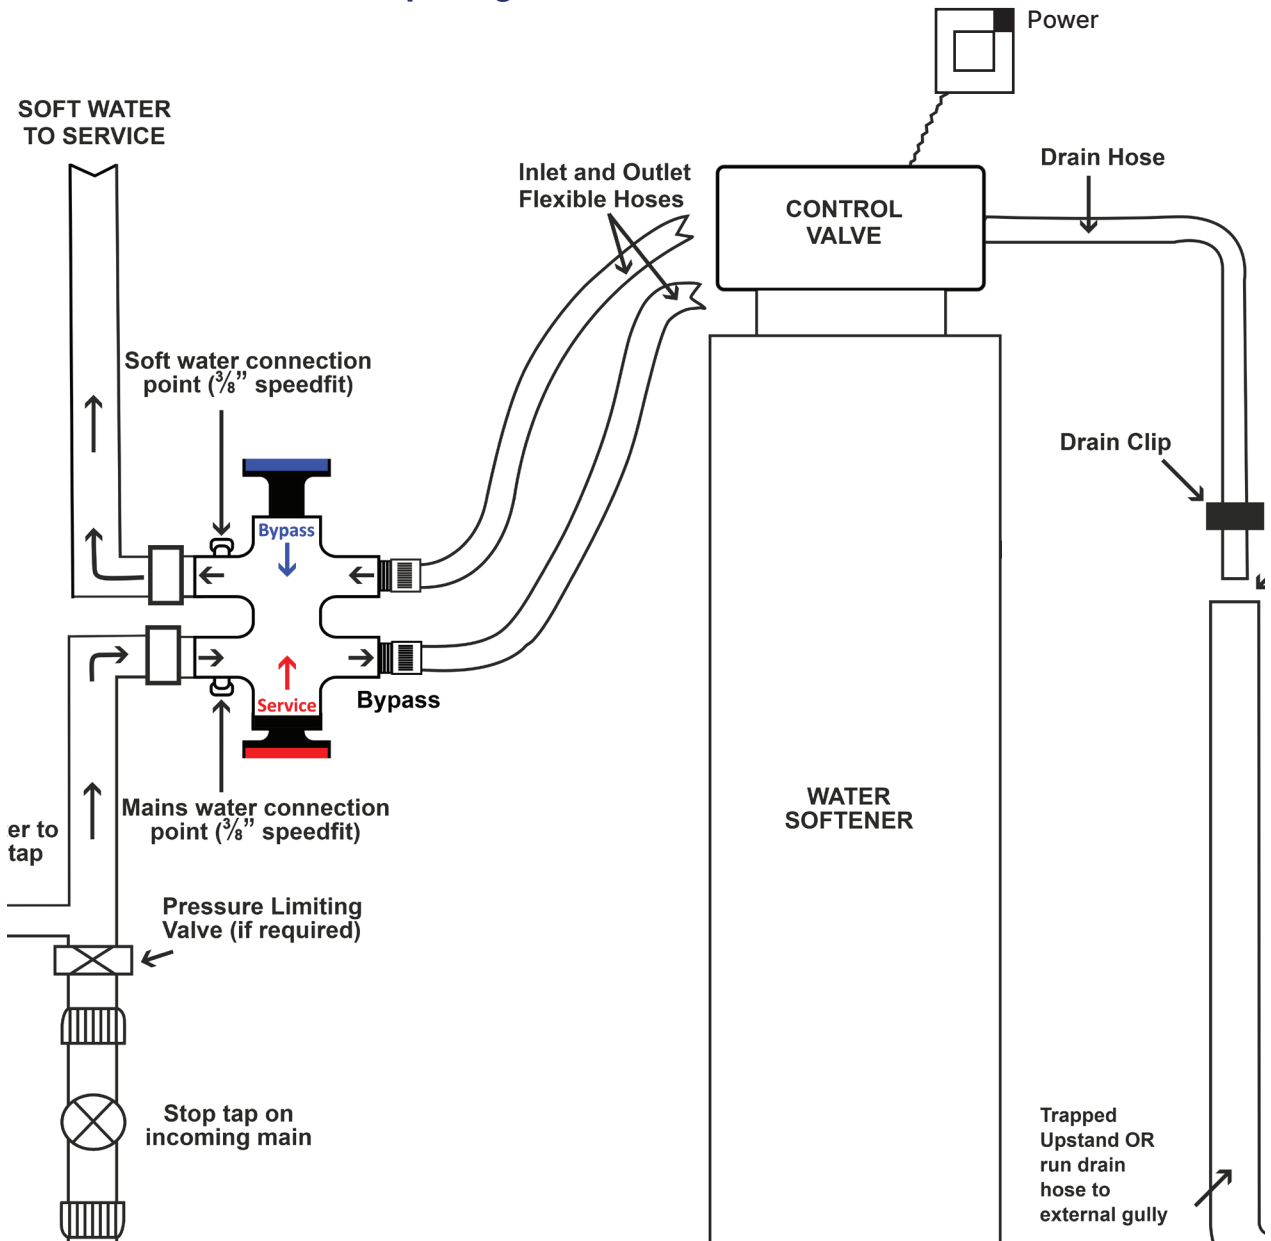

Fig 1.
### **B. SITING THE SOFTENER - Fig 1**
**Form an installation as per Fig 1 below**